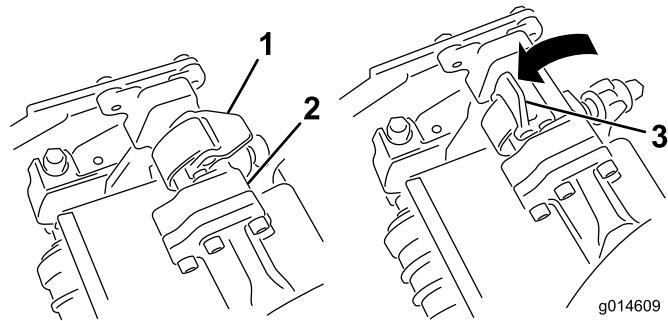

Figure 33
3. With the latches on the suspension-arm bar pointing up (i.e., open) (Figure 33), push the suspension arm
4. Close the latches down and around the cutting-unit bar and lock them in place (Figure 33).
4. Open the latches on the suspension-arm bar of the cutting unit you are removing (Figure 33).